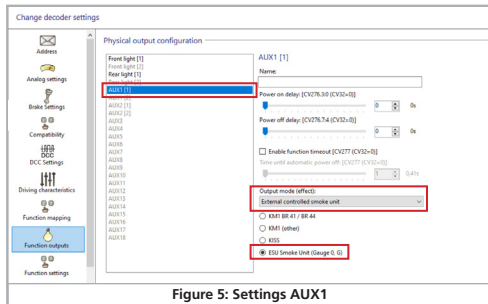

Figure 5: Settings AUX1
- Select "AUX1[1]" in the register "Function Outputs and select "Smoke generator with external circuit board". Then click on the last entry as shown in Fig. 5.